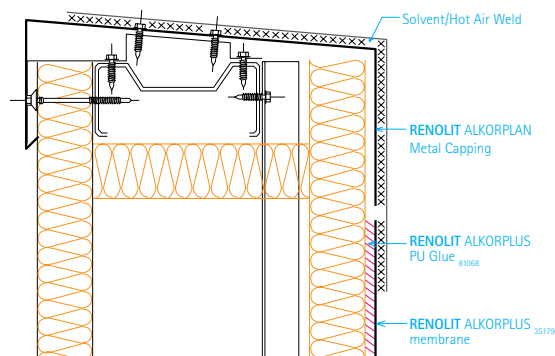

Fig. 2. gluing of parapets
- A mechanical edge restraint along the perimeter of the roof and around roof penetrations is not required where the roofing membrane is fully adhered in the perimeter area (minimum 2 m) and to the parapets. (See Fig. 2) The RENOLIT ALKORPLUS81068 PU glue is applied to the surface of the upstand with a minimum consumption of 300 g/m2. The parapet will have a RENOLIT ALKORPLAN metal trim, but the compressive foam and intermediate fastening can be omitted.